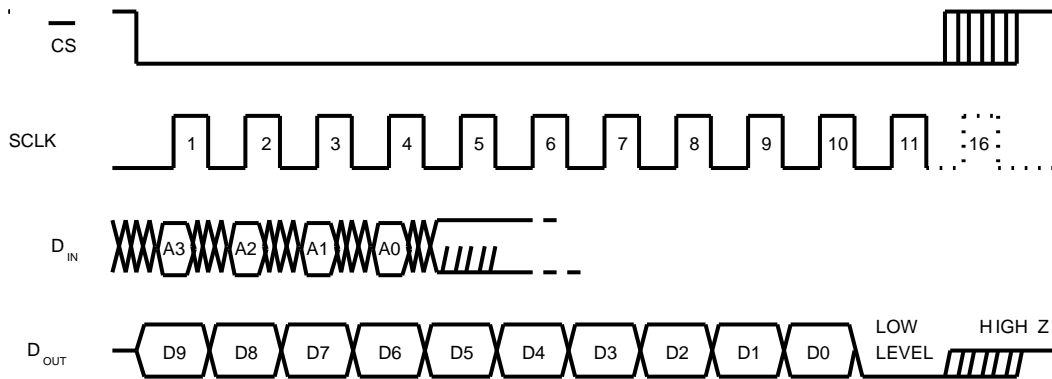
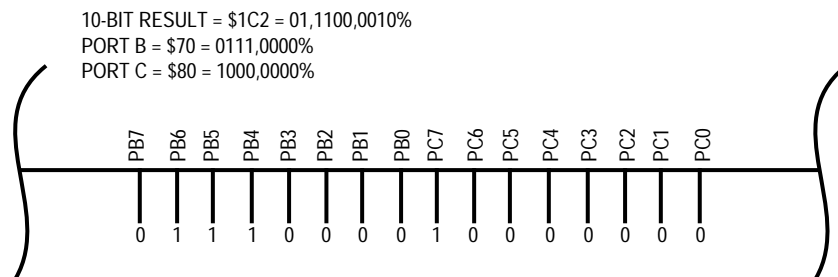

Figure 5. MC145051 Timing Diagram
Figure 7. A/D Value on Port B and Port C
The MC145051 is capable of various bit stream formats. The timing diagram used in this application note is shown in **Figure 5**. The MC145051 will wait patiently until its \overline{CS} pin is asserted low. This signifies that a serial clock will be driving the SCLK pin to transfer the next A/D channel address to be converted. At the same time, the MC145051 will be driving out the converted value of the previous conversion. After the 10-bit address is driven out of D_{OUT} , the \overline{CS} pin will be driven high to signify the end of the transmission process.
For the SPI to "talk" to the MC145051, the SPI must be configured to match up with the MC145051 timing diagram, as shown earlier in Figure 5. Also, two SPI transmissions must be sent to form a 16-bit transfer. Before any transmissions can start, the \overline{CS} pin must be asserted low. This initializes the MC145051 and tells it that a new mux address will be sent to it to start the conversion process. The first transfer sends the A/D channel number to the MC145051, and the MC145051 sends the upper eight bits of the previously converted value. These eight bits are written to the MSB of the 16-bit result register and to port B. The second transfer sends the A/D channel to the MC145051 but the MC145051 ignores it because it is not needed. The MC145051 sends the 705C8 the two least significant bits (LSB) from the previously converted value. These two bits are the two most significant bits in the received SPI data. This byte is written to the LSB of the 16-bit result register and to port C. After both transmissions are done, \overline{CS} is negated high. Port B and port C now have the 10-bit A/D value of the previous conversion. This output value on port B and port C is illustrated in Figure 7. The routine will now sit in an infinite loop waiting for a reset.
5. Pull the \overline{RESET} pin low and then high. The routine will run again, and the previous value of the AN0 channel conversion is represented on port B and port C. The value for port B should be \$70 and port C should be \$80. The result might differ by a least significant bit (LSB). (See Figure 7.)
As stated in the preceding Hardware section, I/O pins have been used to send out the correct serial transmission protocol to the MC145051. The M68HC05 CPU provides special instructions to specifically manipulate single I/O pins. The MC145051 serial stream shown in Figure 5 will be re-created by four I/O pins on the MC68HC705K1.